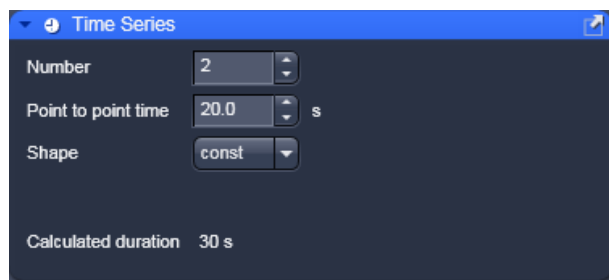

**Fig. 311** Line diagram at lower cover slip surface
- Continue moving upwards slowly. The line position will reach its maximum (Fig. 311).